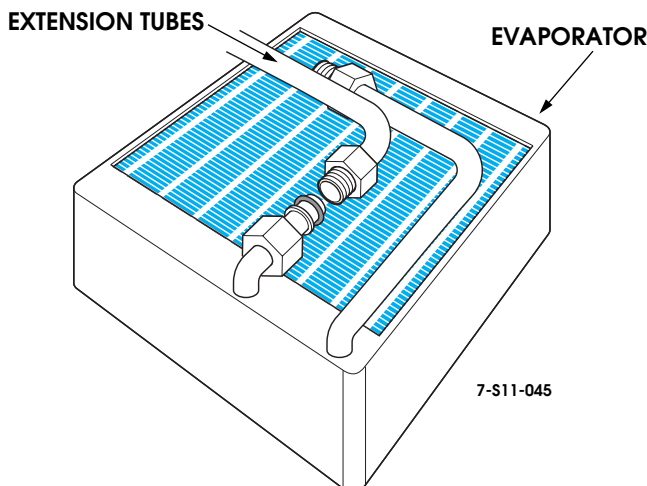

Figure 1-84: Evaporator Extension Tubes Removal
23. Disconnect evaporator extension tubes at the O-ring fittings (Figure 1-84). Discard the O-rings.